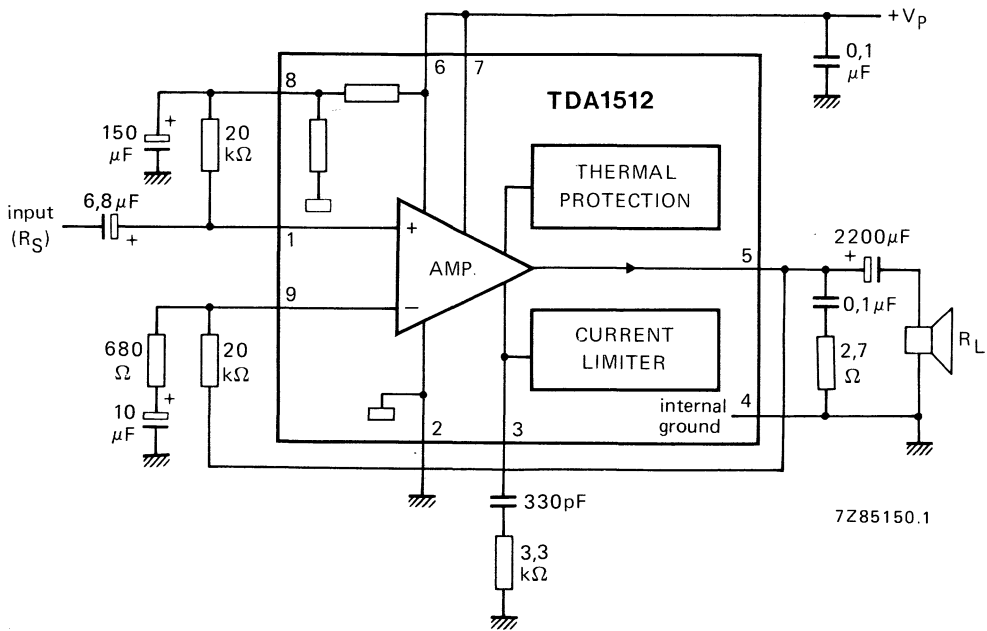

Fig. 3 Test circuit.
$V_p = 25$  V;  $R_L = 4 \Omega$ ;  $f = 1$  kHz;  $T_{amb} = 25$  °C; measured in test circuit of Fig. 3; unless otherwise specified
**Input resistance of test circuit (Fig. 3)**